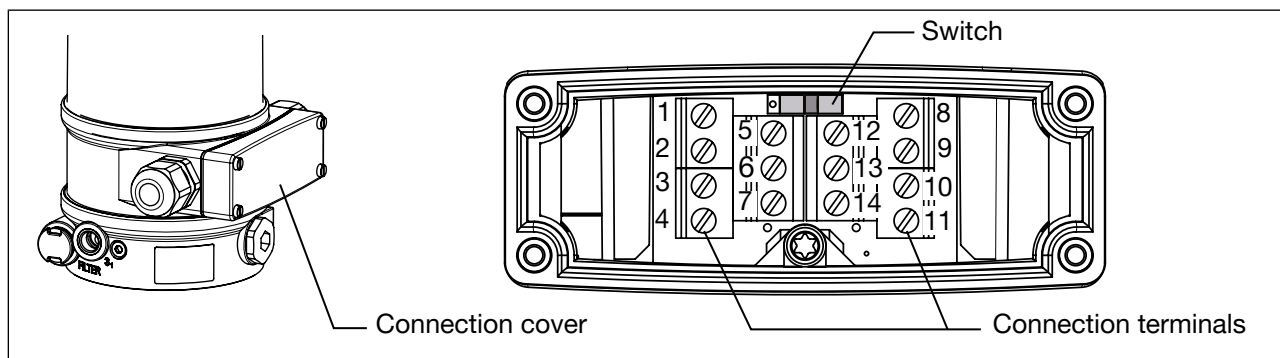

Fig. 32: Cable gland connection
** The switch is situated under the connection cover (see "Fig. 32: Cable gland connection")